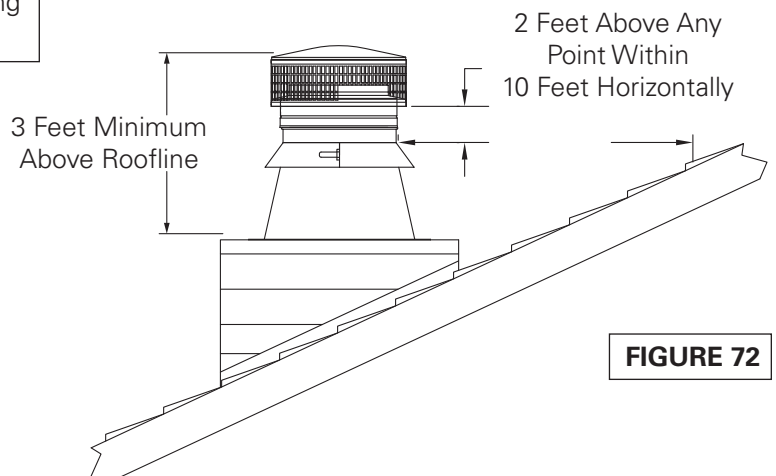

FIGURE 72
11. Termination: NFPA 211, "Standard for Chimneys, Fireplaces, Vents, and Solid Fuel-Burning Appliances," states that chimneys shall extend at least three feet above the highest point where it passes through the roof of a building, and at least two feet higher than any portion of a building within ten feet. **(Figure 72)**